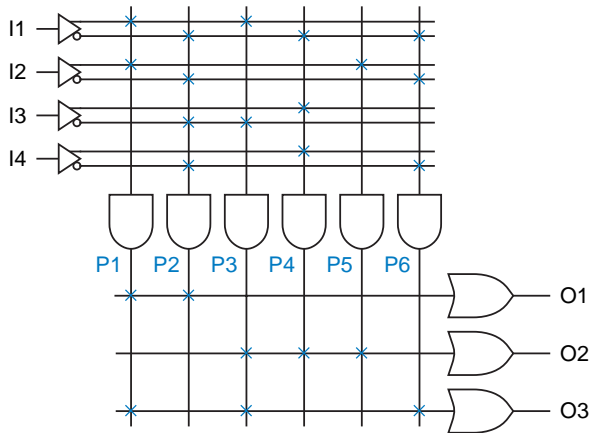

Figure 5: A  $4 \times 3$  PLA programmed with a set of three logic equations.
- Programmed connection pattern in Fig. 5 matches these logic equations